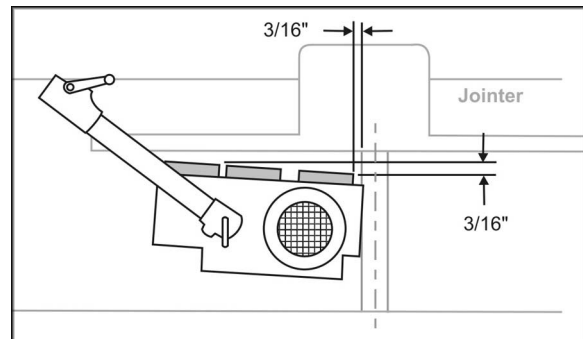

Figure 19
1. Mount the stock feeder on a jointer so that all rollers are over the outfeed table, as shown in Figure 19.
2. The infeed roller should be approximately $3/16"$ away from the lip of the outfeed table at the cutter area. See Figure 19.
3. Rotate the Stock Feeder so that the direction of feed is angled slightly toward the fence by approximately $3/16"$ (5mm); that is, the outfeed roller should be slightly closer to the fence than the infeed roller. See Figure 19.